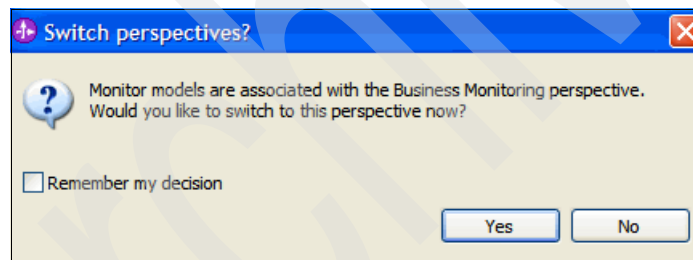

Figure 6-48 Switching to the Business Monitoring perspective
8. When prompted by the Switch perspectives message (Figure 6-48), click **Yes** to go to the Business Monitoring perspective. Then click **No** when prompted to launch the Get Started information.